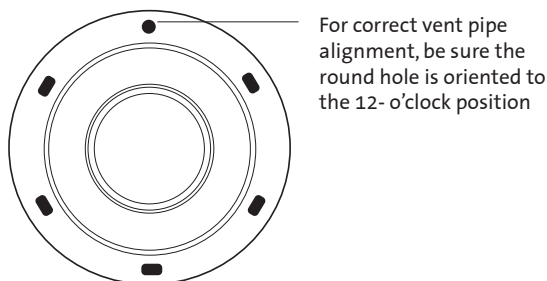

Figure 23. 4/6 Vent Collar orientation.
- Align the 4/6 Collar as shown in Fig. 23 and secure to the unit using the original screws. **Be sure the single round fastener hole is oriented to the 12 o'clock position for proper vent alignment.**